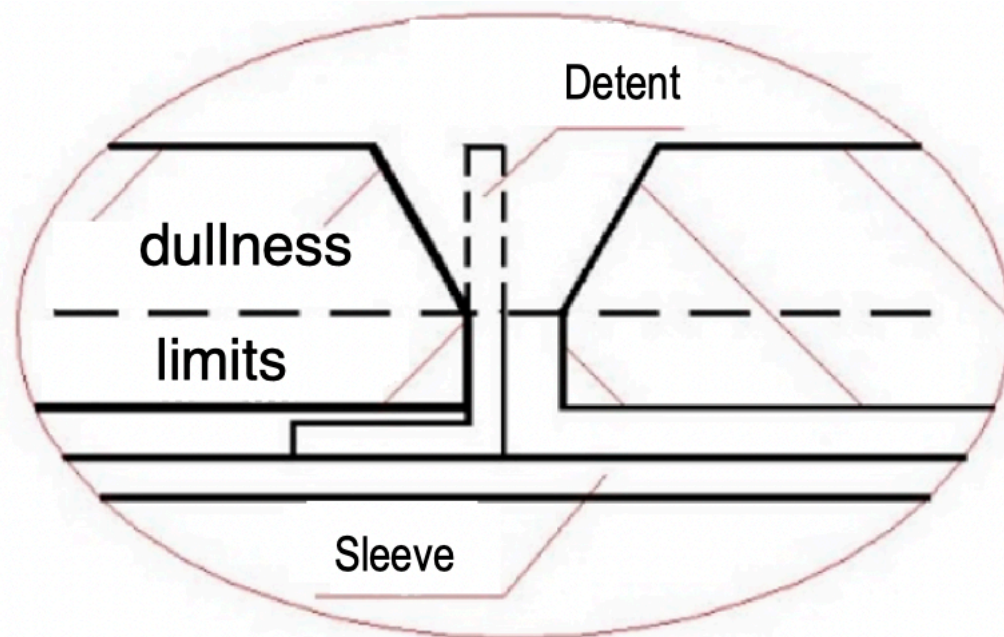

Fig.1
3.7. Using an angle grinder, cut off the protruding parts of the sleeve's detents until the welded edges of the pipes are dulled and clean the tacks (see Fig. 1)